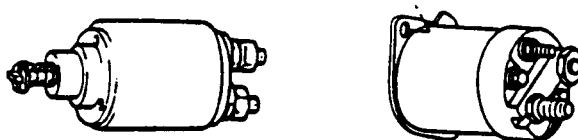

FIGURE 1—STARTER SOLENOID ASSEMBLY
4. **Remanufacturing Procedure**—This document provides a procedure for remanufacturing starter solenoids for automobiles and light trucks, similar to the solenoid shown in Figure 1.